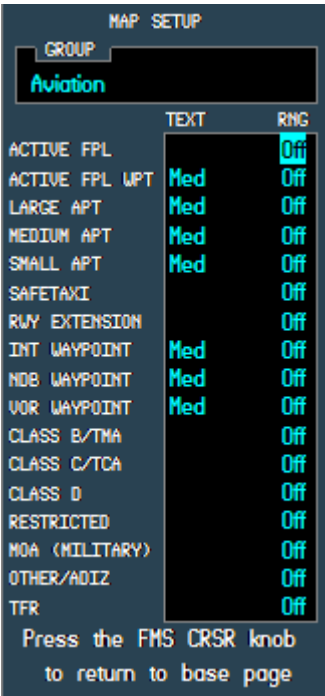

Figure 5.9
4. The Map Setup Aviation Group page is used to set the distance from the aircraft that NAVAIDs are displayed on the MFD screen and, in some cases, the display size (Figure 5.9). The changeable NAVAIDs are listed on the left side of the Map Setup Aviation Group page window. Text size choices in all cases below are: 1) None, 2) Small (Sml), 3) Medium (Med), and 4) Large (Lrg). Medium size is the default size. . Currently no functional significance in the fs2x G1000.